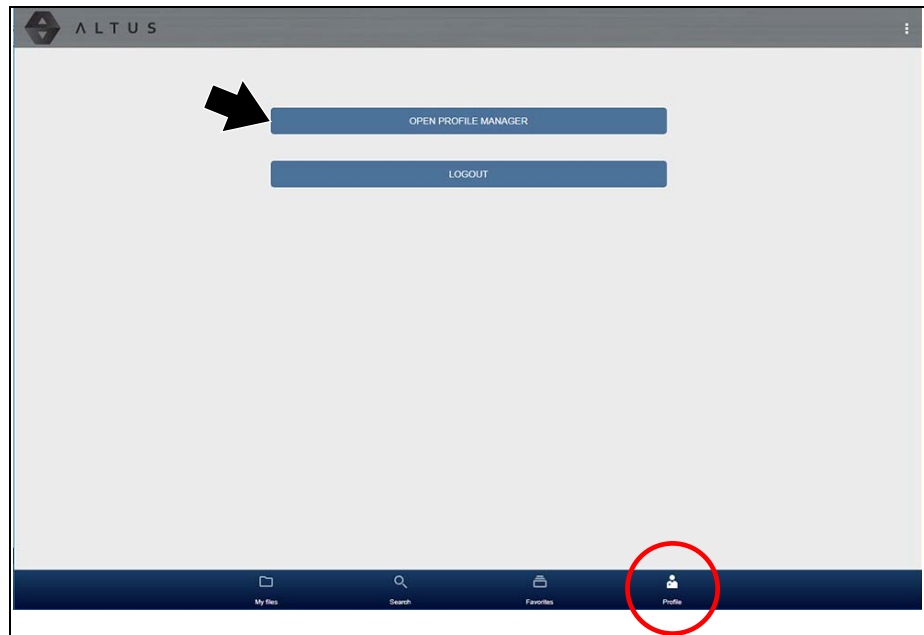

Figure 13-17
- Open Profile Manager (Figure 13-17), see Using Profile Manager, on page 186,
1. To open the Profile Manager screen, select **Profile** from lower toolbar, then select **Open Profile Manager** (Figure 13-17).